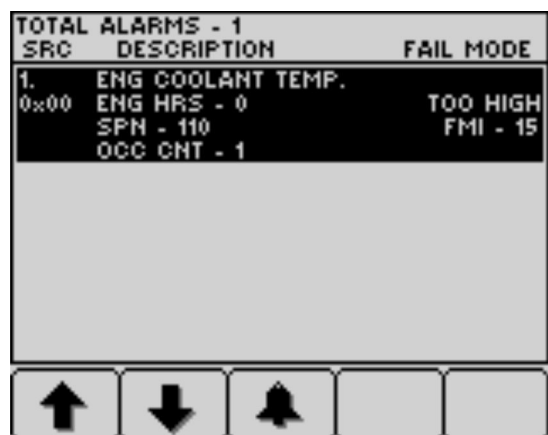

Figure 35
3. Press button 1 through 5 to view the active fault list (Figure 35).
4. Press button 1 through 5 to view the active fault list ; refer to Figure 35 in Engine Advisories Messages (page 32).